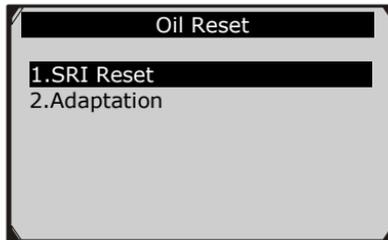
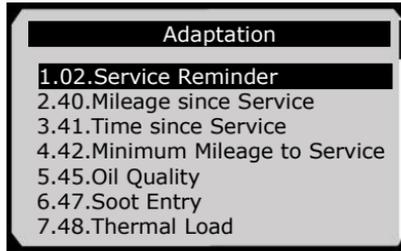

Figure 7.7
Figure 7.15
- 4) From Oil Reset menu (Figure 7.7), select **SRI Reset** function and press **OK** button. Then the screen shows as Figure 7.8.
- 5) From Oil Reset menu (Figure 7.7), select **Adaptation** function and press **OK** button. Then the screen shows as Figure 7.15.